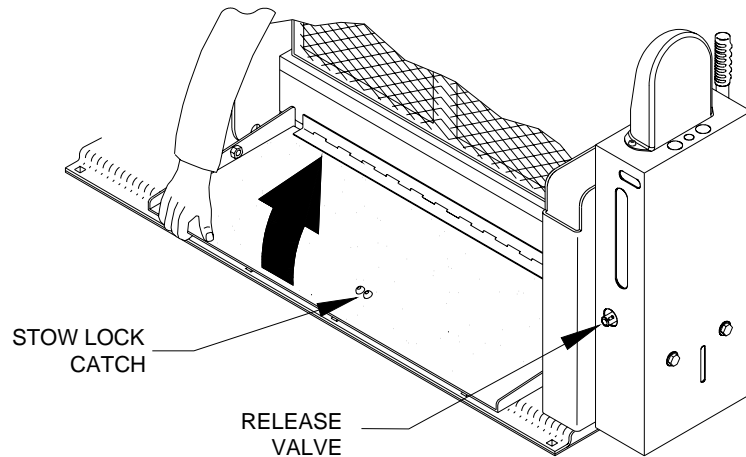

FIGURE 2-11: RAISE BRIDGEPLATE BY HAND
- a. Refer to **Figure 2-11**. Override the stow lock feature by lifting bridgeplate by hand. This will separate the stow lock catch (fastened to underside of bridgeplate) from stow lock latch (fastened to base assembly). If stow lock is difficult to separate, use manual backup pump to raise platform slightly and remove tension from catch; refer to "Stow Platform" paragraph in this section.